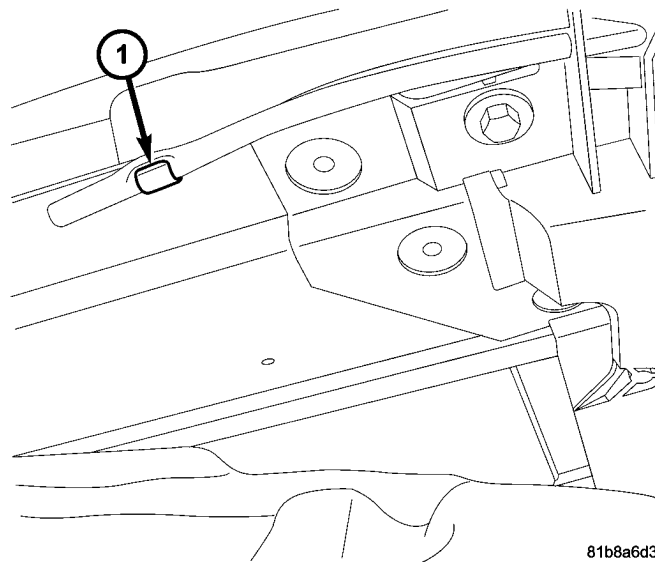

Fig. 5 CONDUIT RETAINER CLIP
5. Remove conduit from clip at side of sunroof module, (Fig. 5).